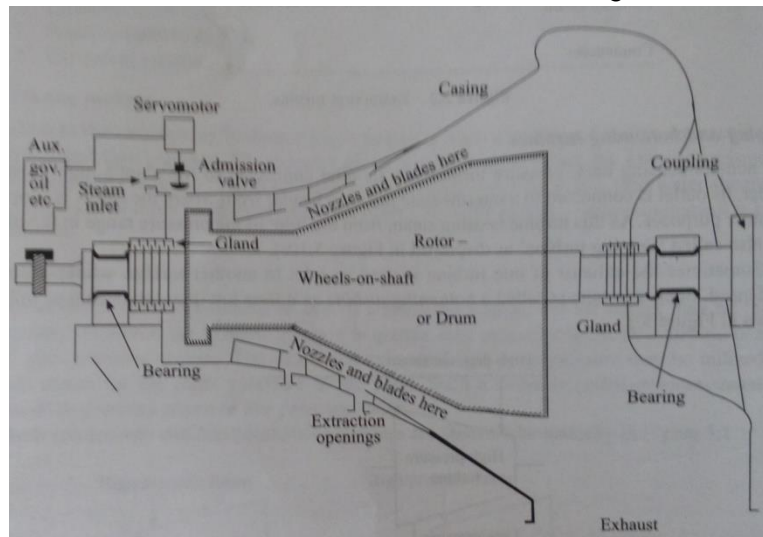

Figure 9 Turbine
- ❖ The various elements of the steam turbine are shown in figure 9